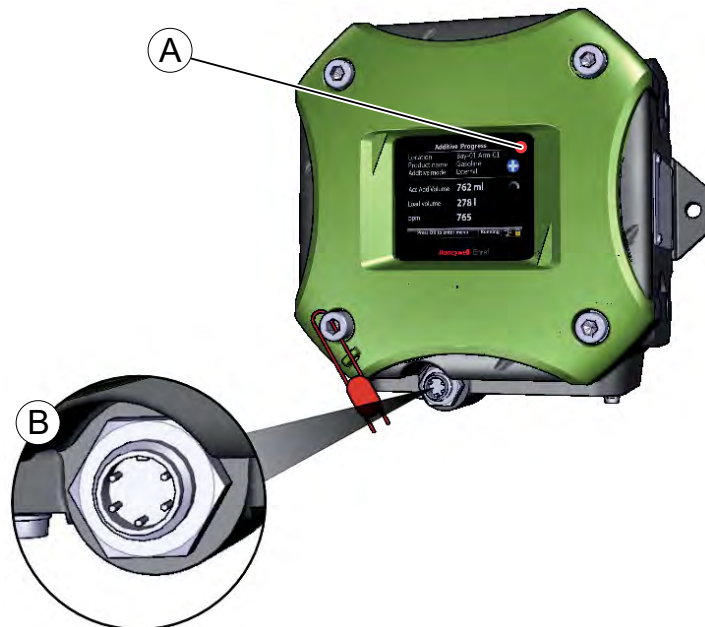

FIGURE 5-1
- The infrared interface (see A, FIGURE 5-1) by using the IR Controller.
- The wired Ex i interface (see B, FIGURE 5-1) with a LAD.